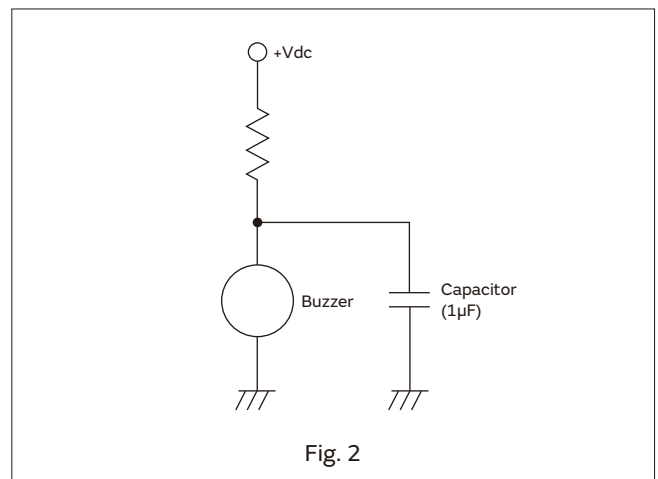

Fig. 2
4. Please don't put a resistor between the oscillation circuit and power supply to control the sound volume of the piezoelectric sounder or the piezoelectric buzzer. Doing so could cause an unstable sounding state like an abnormal oscillation or the oscillation stopping because of the change in oscillation conditions. Please insert a capacitor (about 1 μ F) in parallel with the piezoelectric buzzer, if you need to control the sound volume. (Please see Fig. 2)